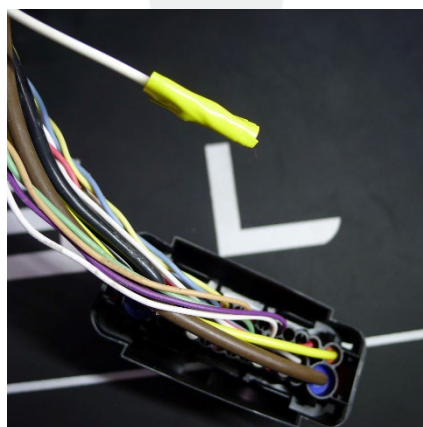

Figure 19
18. Cut the terminal from the white wire, and then wrap the wire end with yellow tape (Figure 19).